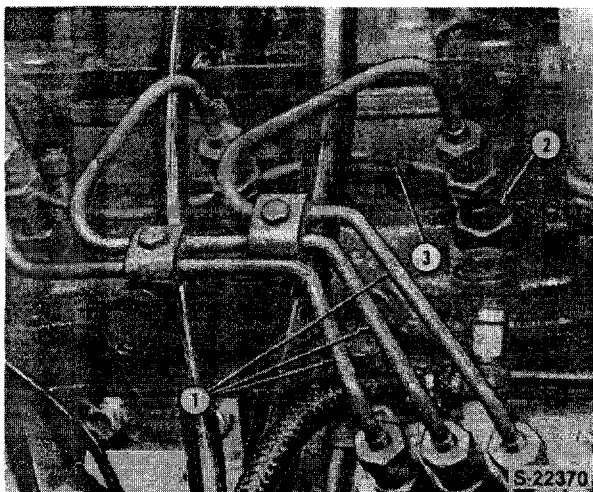

Figure 4
5. Remove the injection lines and cap all openings, Figure 4.
6. Remove the injector leak-off line (3), Figure 4.
7. Remove the injector assemblies, Figure 4.